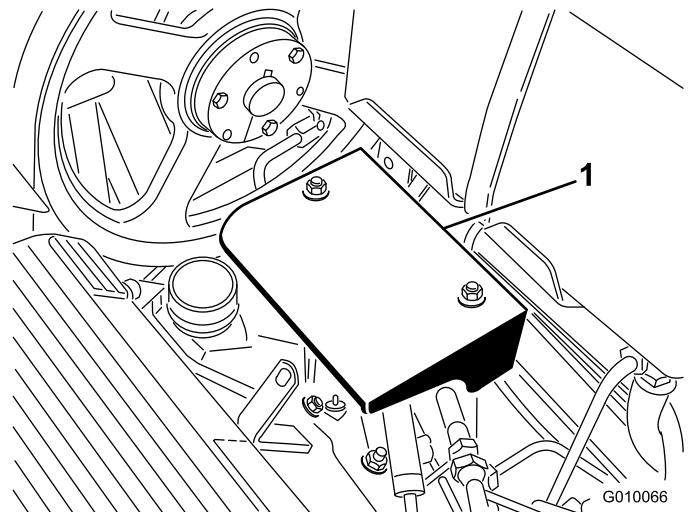

Figure 56
2. Remove the 2 pump shield mounting nuts and remove the shield (Figure 56).